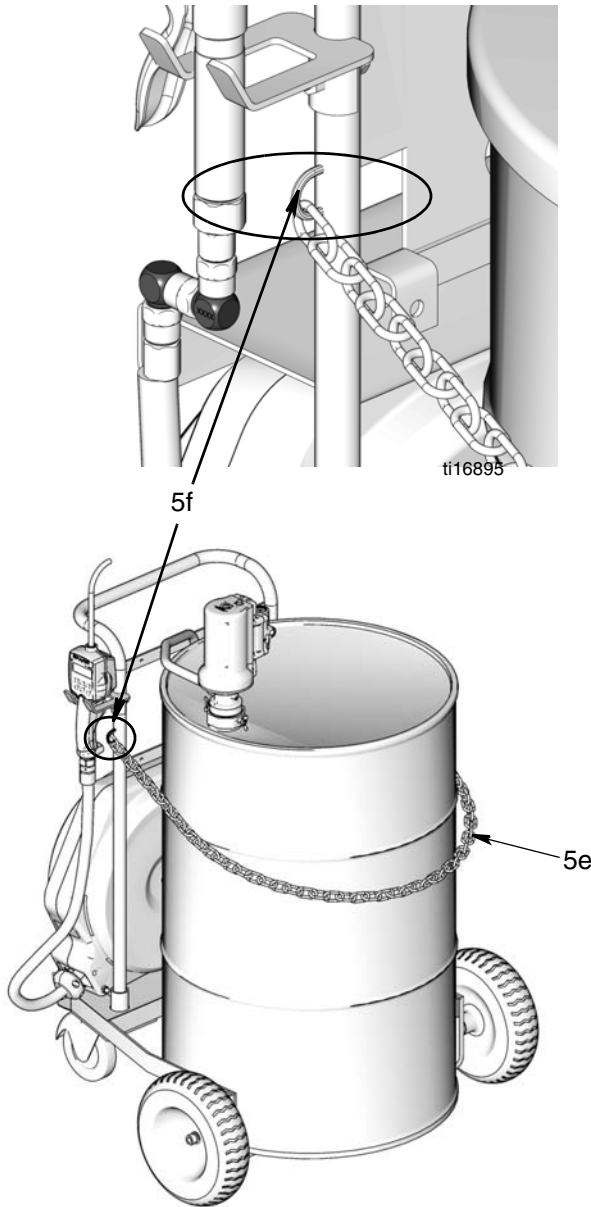

FIG. 35
7. Secure a chain (5e) around the drum as shown in FIG. 35. Adjust chain to a suitable length for the drum size. Connect ends of chain to the two ear brackets (5f).